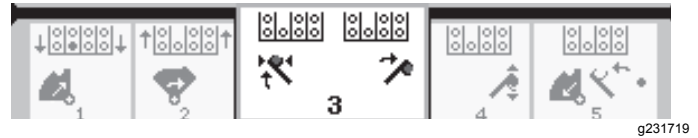

**Figure 30**
5. Hold the lower section of the rocker switch (Figure 30) until the cam assembly fully rotates forward to the rack and the elevators lift the remaining pipe into the pipe box (Figure 31).